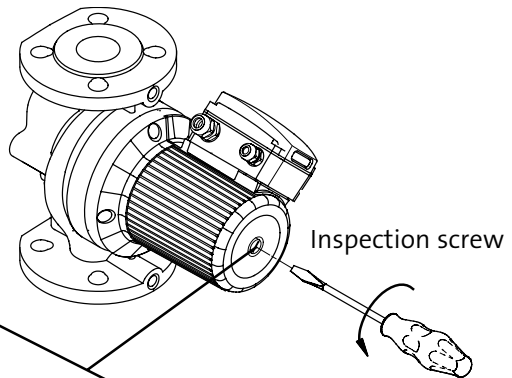

Fig.12 Vent Plug
WARNING: If the vent screw is to be loosened, care should be taken to ensure that the escaping scalding hot liquid does not cause personal injury or damage to components (see Fig. 12).
AVERTISSEMENT: S'il faut desserrer la vis de purge, prendre les mesures nécessaires pour que le liquide brûlant qui s'échappe ne cause pas de blessures ou de dommages aux composants (voir la figure 12).
- Insert a small, flat-blade screwdriver into the slot in the end of the motor shaft (see Fig.12). Rotate the shaft with the screwdriver to make sure it does so freely.